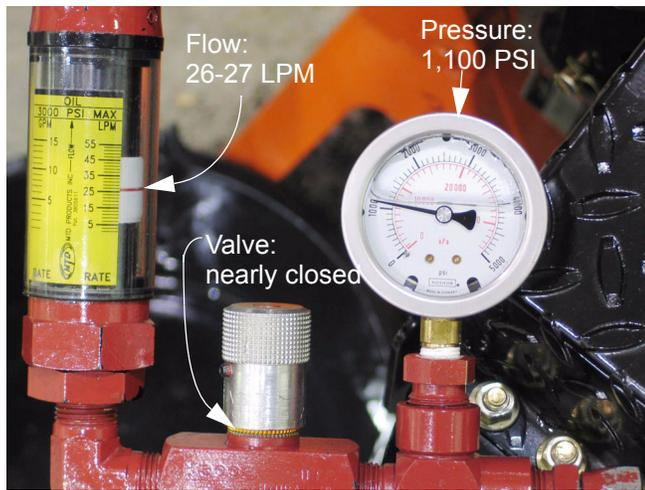

Figure 24.23
24.23. After the 300 PSI (20.68 Bar) flow reading is noted, close the load valve further, until the pressure gauge reaches 1,100 PSI (57.85 Bar). Note the flow rate. See Figure 24.23.